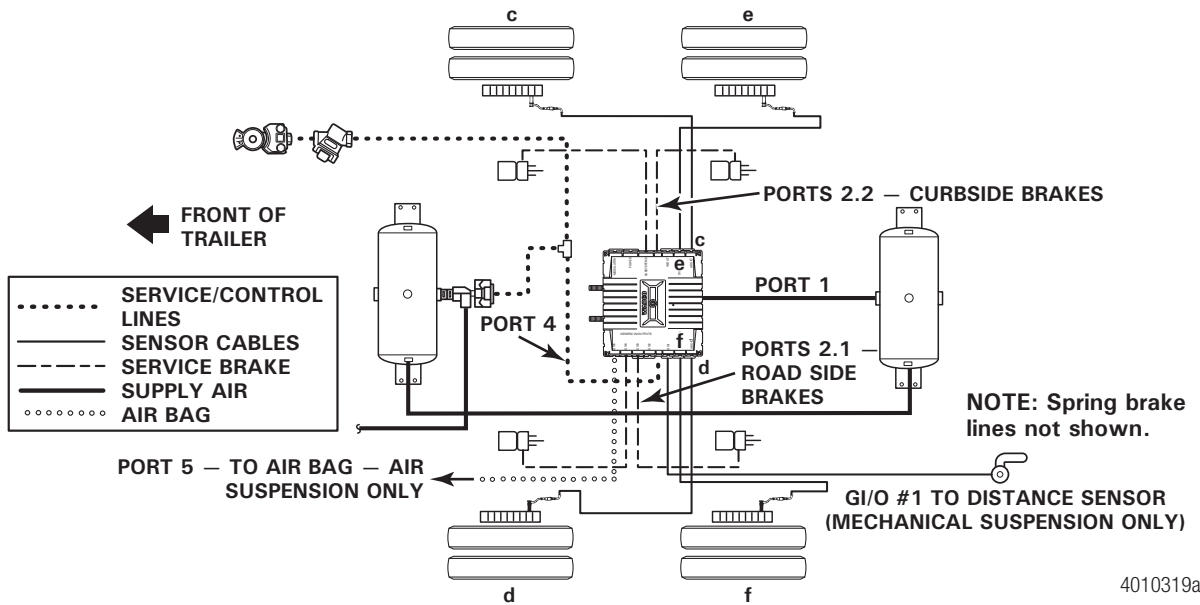

Figure 21
- 4S/2M Tandem Axle (Figure 21)